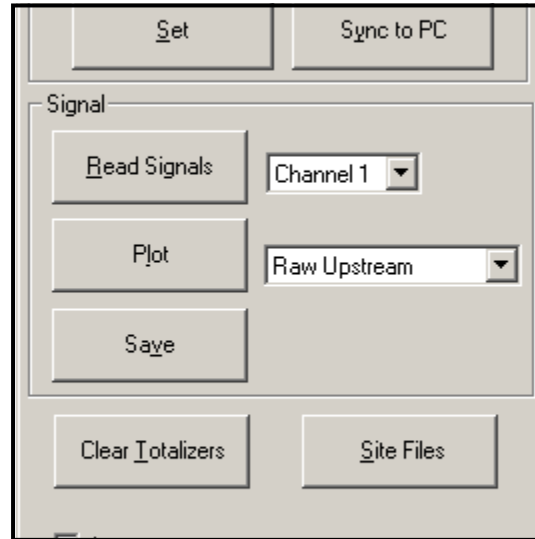

Figure 28: Active Signal Options
1. Click on the *Read Signals* button. (If the meter is a multi-channel instrument, open the Channel drop-down menu and click on the desired channel.) After a moment, the *Properties* window appears similar to *Figure 28* below.